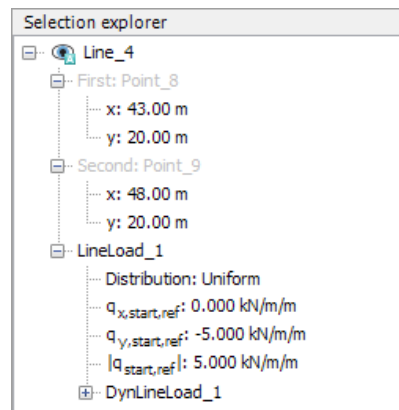

Figure 46: Components of the distributed load in the Selection explorer
4. In the **Selection explorer** assign a value of -5 kN/m/m to the y-component of the load ($q_{y,start,ref}$) as shown in Figure 46 (on page 61).